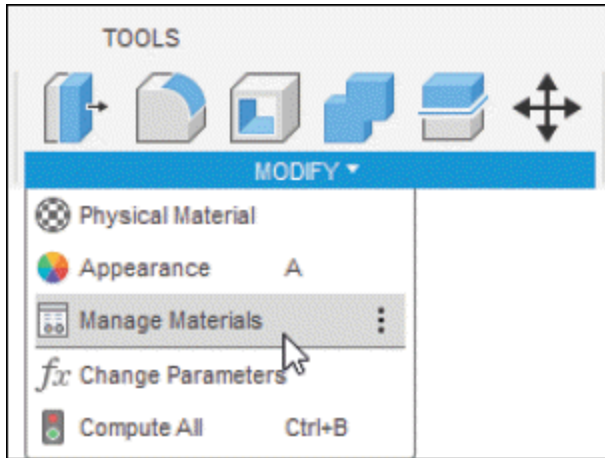
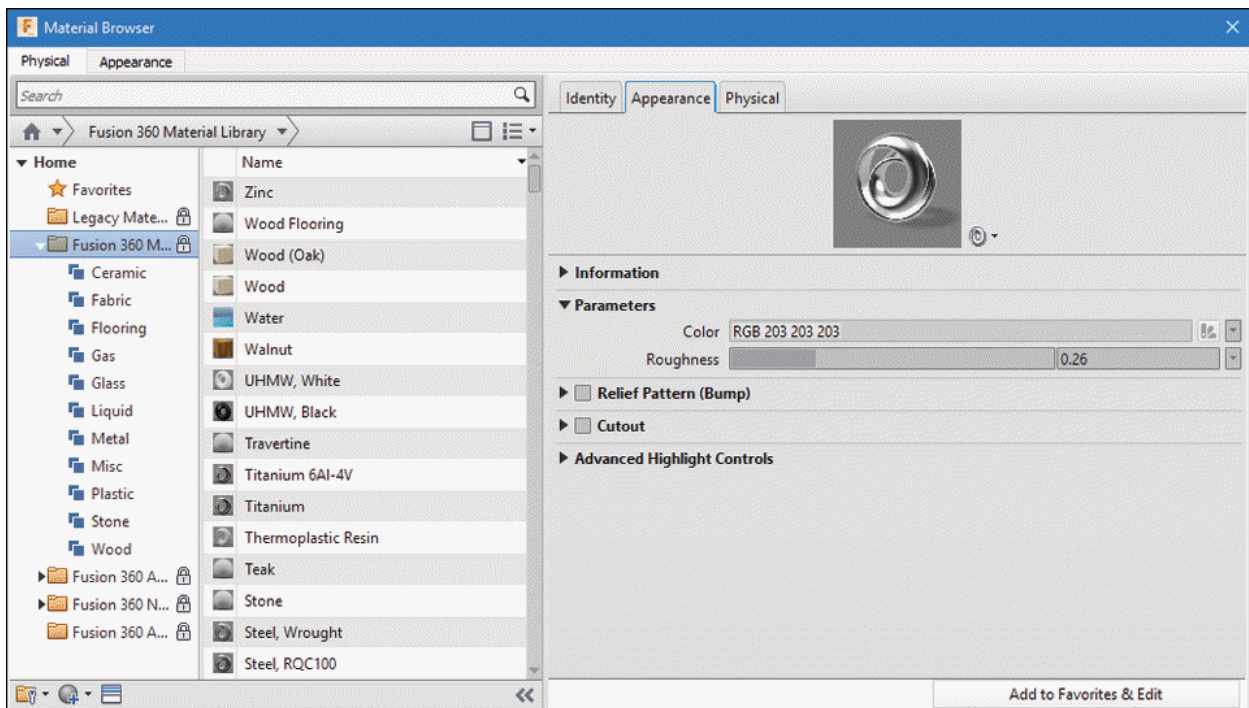

Figure-81. Manage Materials tool
Figure-82. Material Browser dialog box
- Click on the **Manage Materials** tool of **MODIFY** drop-down from **Toolbar**; refer to Figure-81. The **Material Browser** dialog box will be displayed; refer to Figure-82.